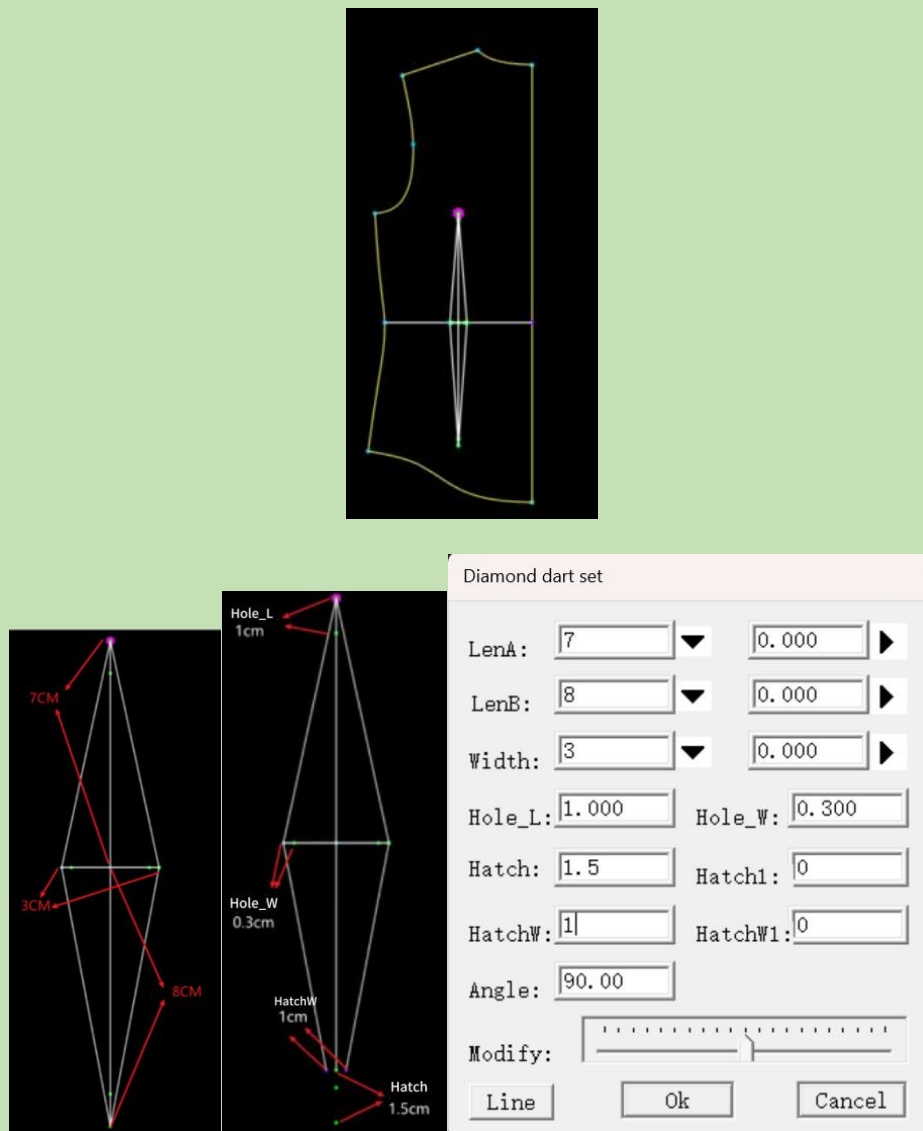

Figure4-84
2. Enter the relevant data and then click OK (Figure 4-84).